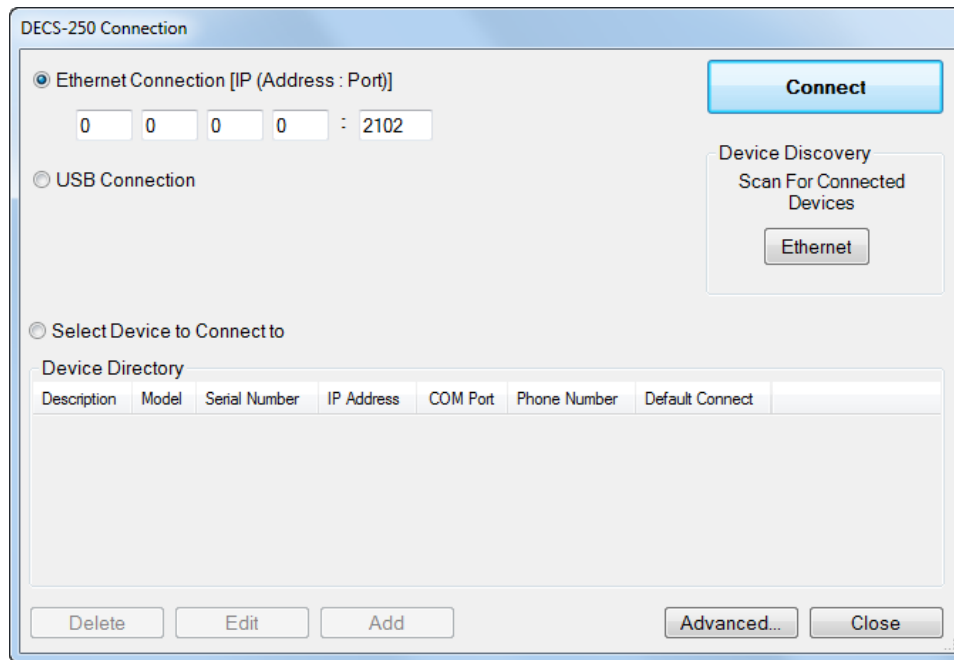

Figure 125. DECS-250E Connection Window
2. In BESTCOMSPPlus, click *Communication, New Connection, DECS-250E*, or click the *Connection* button on the lower menu bar. The DECS-250 Connection window appears. (Figure 125)